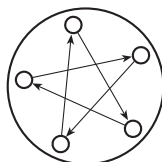

Figure 10:
1. Use a 3/32" hex driver to remove the 5-40 socket head screws that secure the stator to the valve body. Alternate among the five screws in the sequence indicated in **Figure 10**, loosening them in quarter-turn (90°) increments until all load is removed.
2. Replace the stator. Insert the five socket head screws and tighten them gently until they start to get snug. Alternate among the five screws in the sequence indicated in **Figure 10**, tightening them in quarter-turn (90°) increments until the stator is flush against the valve body.